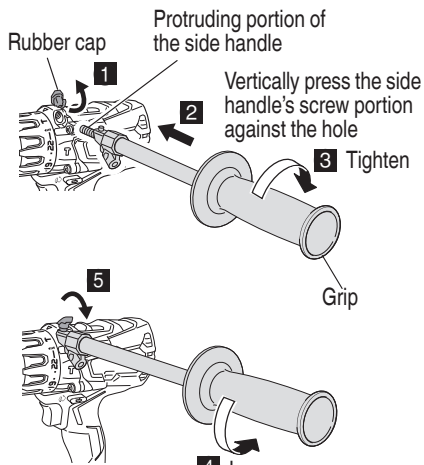

Fig. 10
3. Installing/Removing the side handle. (Fig. 10)